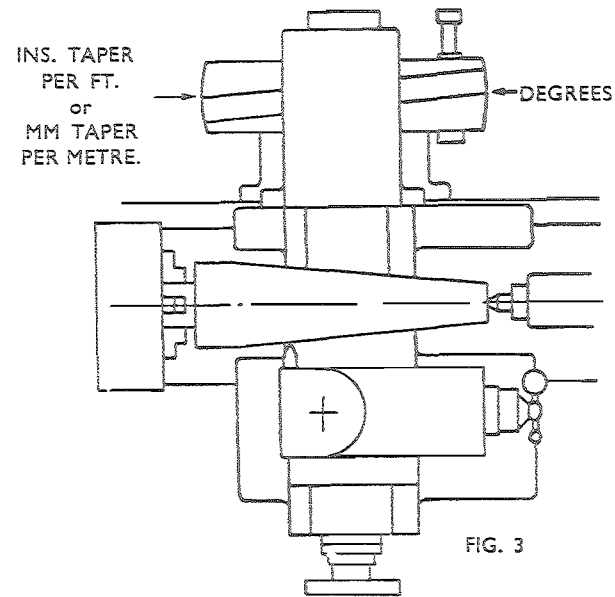

FIG. 3.
(3) If the lathe is fitted with a taper turning attachment, fig. 3, then more accurate tapers, either external or internal, can be produced than by the two preceding methods. By the use of this attachment, the lathe centres are not of course taken out of alignment, so that the bearing surfaces are unaffected.